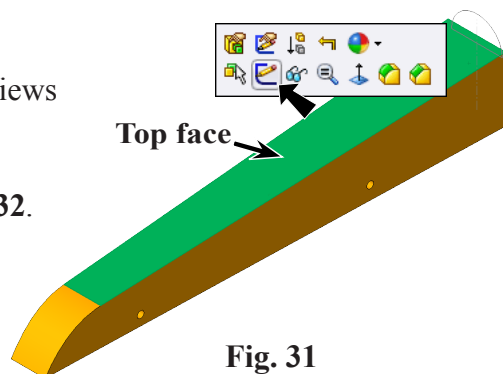

Fig. 31
Step 2. Click the **top face** of body and click **Sketch**  on the Content menu, **Fig. 31**.